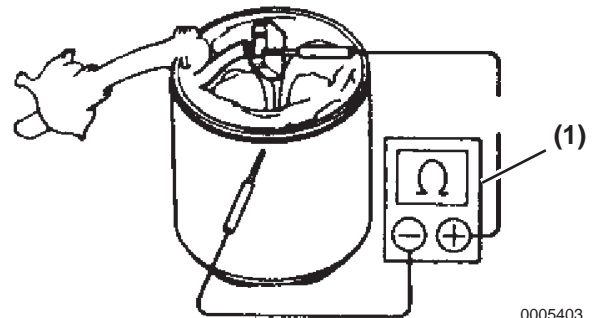

Figure 10-16
2. Using an ohmmeter (**Figure 10-16, (1)**) check the field coil frame for continuity between the field coil end and the field coil frame. If continuity is measured, repair or replace the field coil frame.